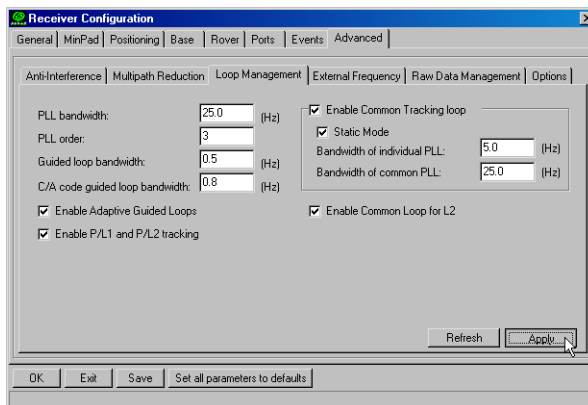

Figure 2-17. Advanced Configuration – Loop Management
3. Click the Loop Management tab, enable the following boxes, and click Apply (Figure 2-17).